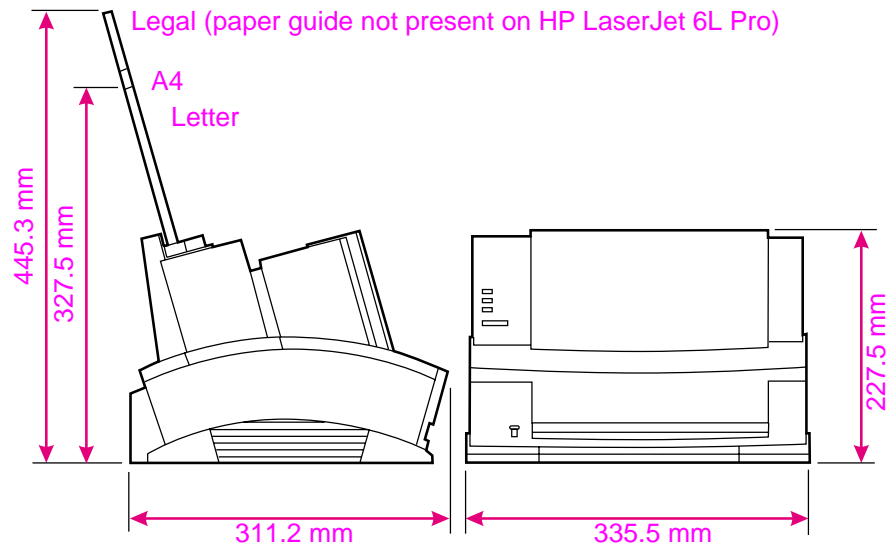

Figure 2-1 Printer space requirements
- Install with enough **space around the printer** for proper access and ventilation. (See Figure 2-1.)